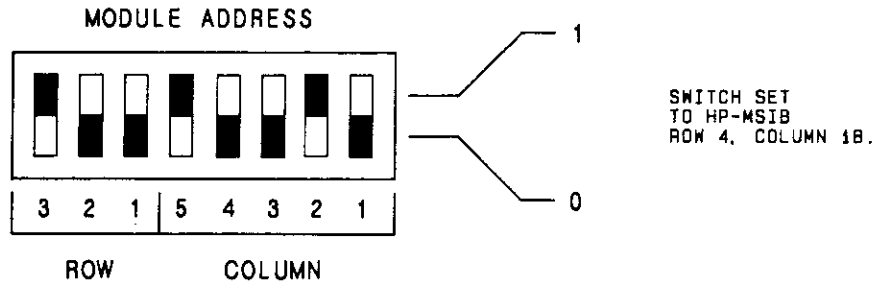

Figure 2-2. Module Address Switch
1. Find the group of address switches located on the left side-panel of the module. See figure 2-2 for an example of the switches.
2. Set the three switches labeled "row" to the binary value of the module's HP-MSIB row number. For example, if the row value is 4, set the switches to binary 100 as shown in figure 2-2.
3. Set the five switches labeled "column" to the binary value of the module's HP-MSIB column number. For example, if the column value is 18, set the switches to binary 10010 as shown in figure 2-2.